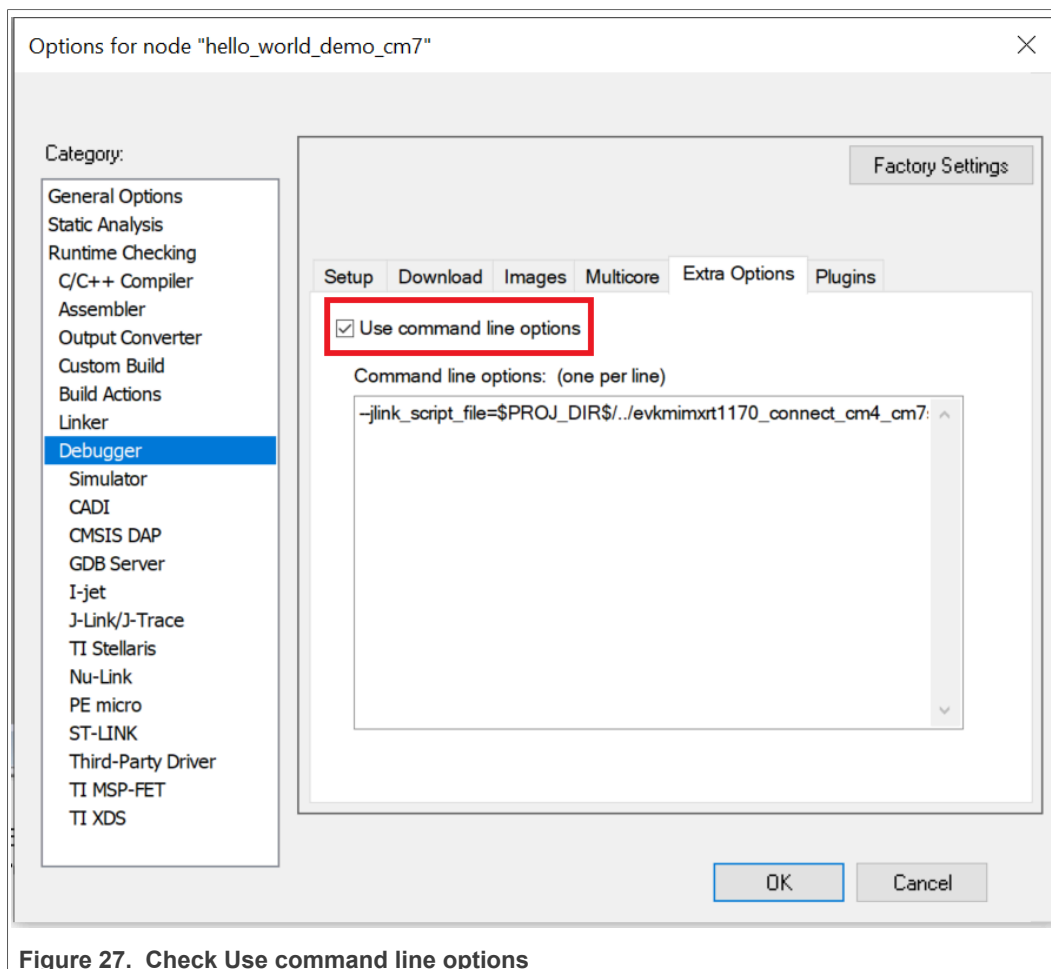

Figure 27. Check Use command line options
- When downloading the `cm7` project, check **Use command line options**, as shown in Figure 27.